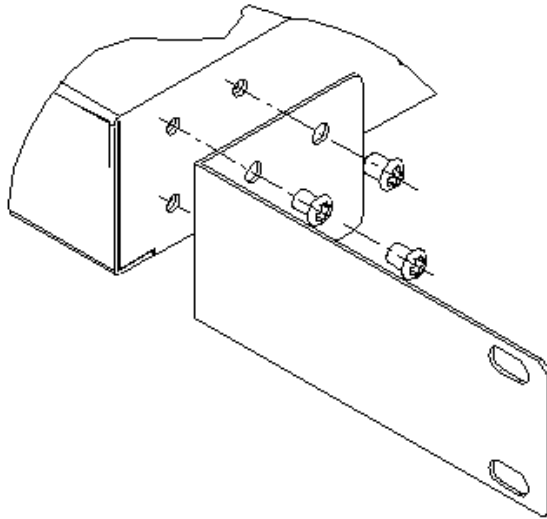

Figure 5: Rack Mount Bracket Assembly
2. Position the mounting bracket over the mounting holes on one side of the unit, as shown in Figure 5.